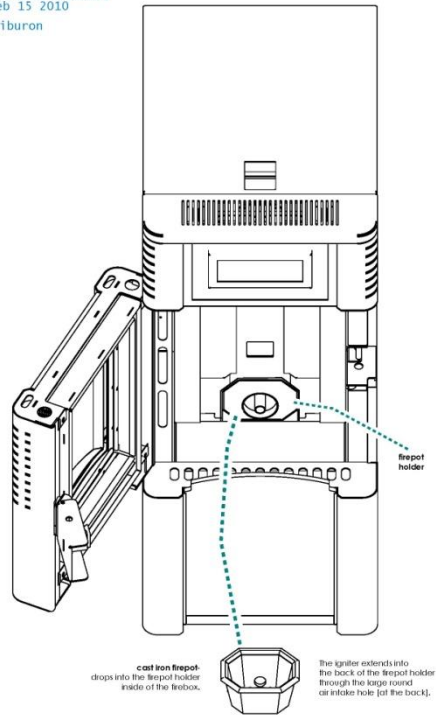

FIGURE 8
7. Installation per **FIGURE 8** requires 4" Type L pipe with a minimum 5 foot vertical rise with a square horizontal cap.